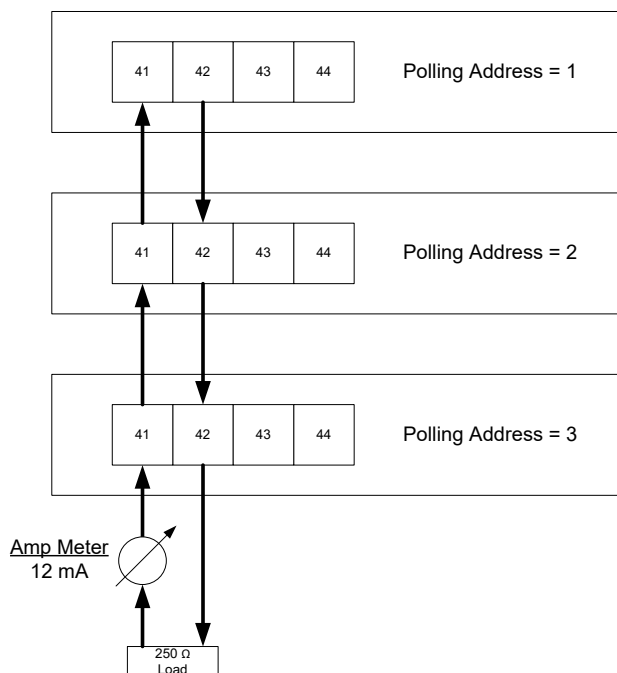

Figure 5: Wiring meters in parallel
2. Wire the meters in parallel as shown in Figure 5: